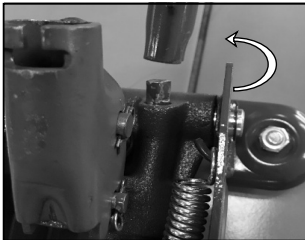

fig 4.
1. **Check oil level** - Open release valve with the handle assembly (fig.4) not more than two twists and press down on head cap [1] to ensure lifting arm [2] is fully down.
1. Close release valve by twisting the handle assembly clockwise until firm resistance is felt (fig.4).
2. Slowly twist the handle assembly counter-clockwise (fig.4) until the jack just begins to lower.
4. After removing the jack from under the vehicle, push down on the lifting arm (2) to reduce the pump ram exposure to rust and contamination.